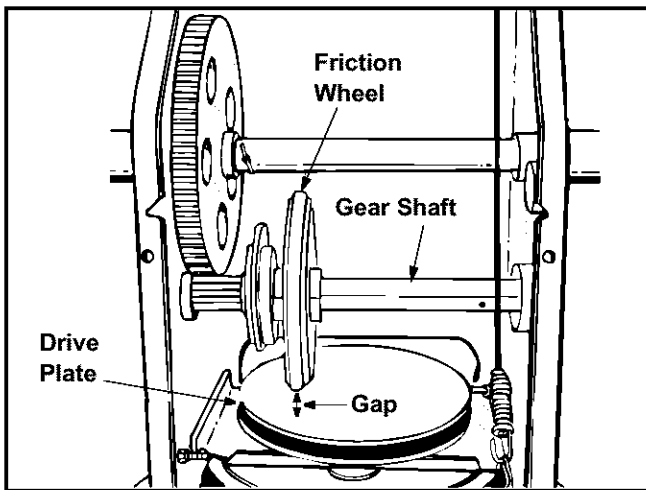

Figure 18
- With the traction control is released, there must be clearance between the friction wheel and the drive plate in all positions of the shift lever. See Figure 18.